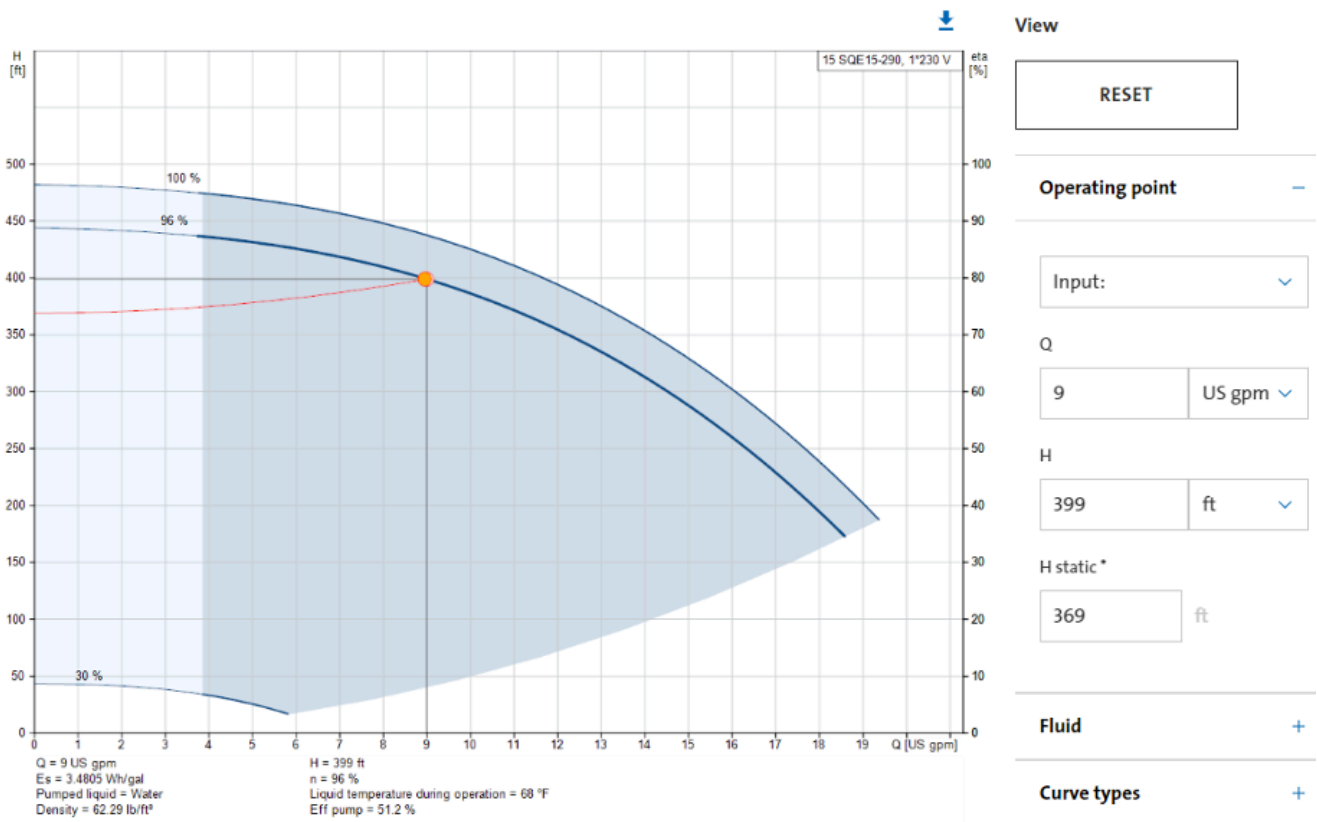

Figure 48. Constant pressure pump performance curve
The software returned two different 1 ½ hp pump options, the pump curve for the 15 GPM model is shown in Figure 48. Notice there are now both maximum and minimum pump speed curves shown on the graph. For our flow requirements the pump will be operating at 90% of it maximum speed to deliver our estimated peak demand of 9 GPM. For all lower flow requirements, the electronic controller will reduce the pump speed to match the flow and maintain the programed setpoint pressure.
- Figure 48. “Constant pressure pump performance curve” from the Grundfos’ online sizing software. It is being used under the basis of fair dealing.